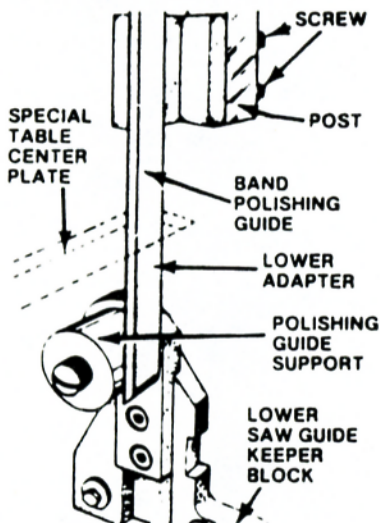

FIG. 52. POLISHING GUIDE INSTALLATION.
- (1) Remove table center disk.
- (2) Mount band guide back-up support to post, replacing the saw guides. See Fig. 52.